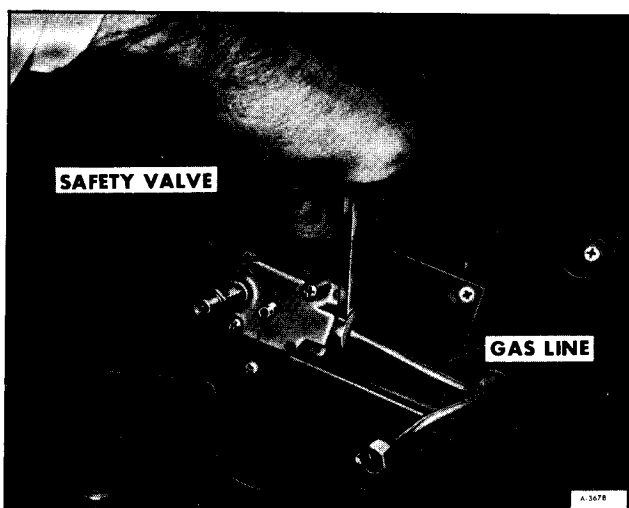

Figure 21—Disconnecting Gas Line from Safety Valve
7. Disconnect gas line from oven safety valve (figure 21).